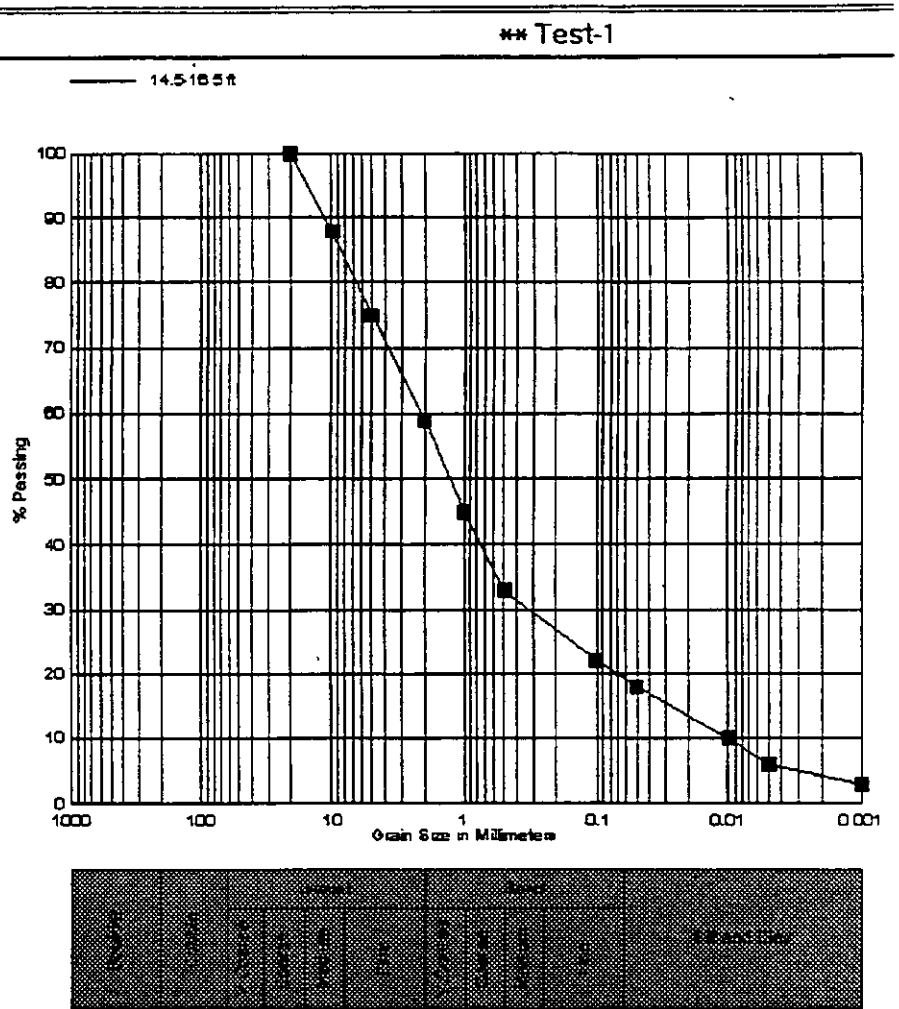

Figure 12-10
12. Display the curve by selecting Display. the curve should look as shown in Figure 12-10.